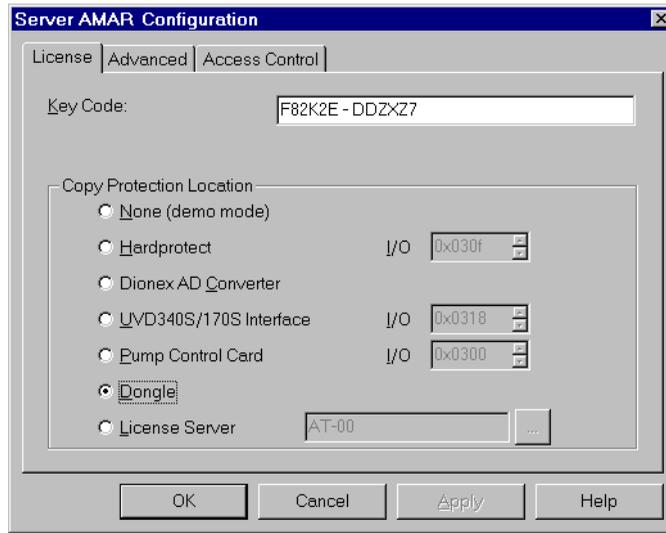

Figure 2-2. Server Configuration Properties
4. Select **Edit > Properties** to open the Server Configuration properties dialog box (see Figure 2-2). Click **Dongle** and then enter the **Key Code** provided with the Chromeleon license. Click **OK**.